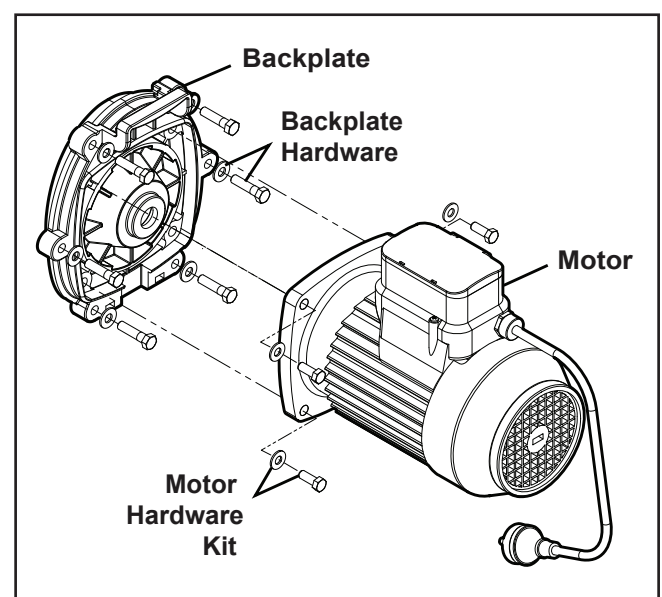

Figure 20. Backplate Assembly
5. Replace the four (4) bolts and washers holding the backplate to the motor and torque to 20 Nm. See Figure 20.
3. Note the alignment of the backplate to the motor, as shown in Figure 20. Place the backplate motor assembly o-ring side down, unscrew the four 9/16" screws, and remove the motor.